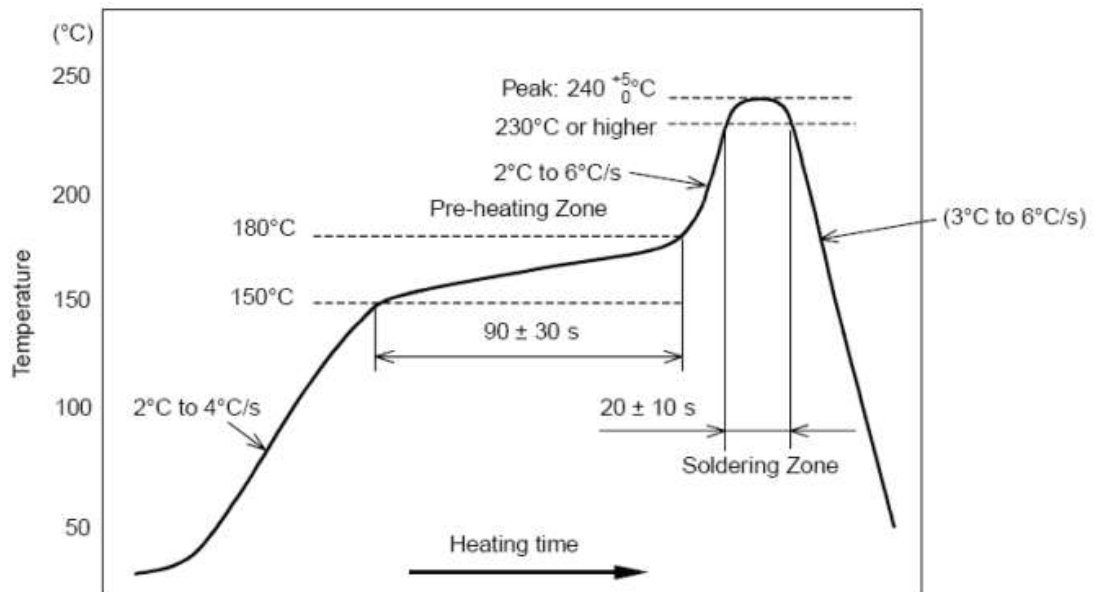

Figure 5. Temperature Curve of Soldering Heat Resistance (at Soldering Point)
2. Maximum 2 times of reflow soldering are allowed, based on the following reflow soldering profile (see figure 5);
3. Temperature profile: Reflow soldering shall be done following the temperature profile below (see figure 5);